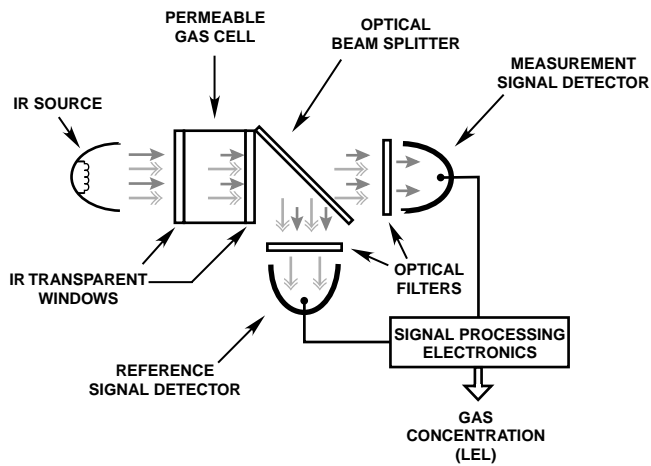

Figure 1—Measurement Scheme for Infrared Gas Detector
Flammable hydrocarbon gases diffuse through the weather baffle assembly into the internal measurement chamber, which is illuminated by an infrared (IR) source. As the IR passes through the gas within the chamber, certain IR wavelengths are absorbed by the gas, while other IR wavelengths are not. The amount of IR absorption is determined by the concentration of the hydrocarbon gas. A pair of optical detectors and associated electronics measure the absorption. The change in intensity of the absorbed light (active signal) is measured relative to the intensity of light at a non-absorbed wavelength (reference signal). See Figure 1. The microprocessor computes the gas concentration and converts the value into a 4 to 20 milliamper current output signal, which is then communicated to external control and annunciation systems.